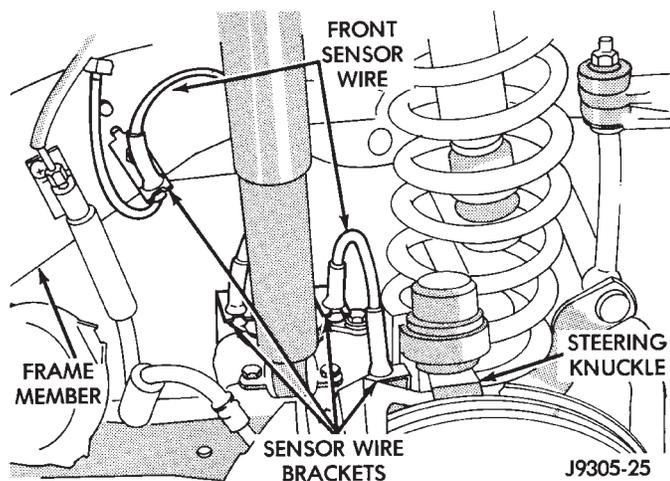
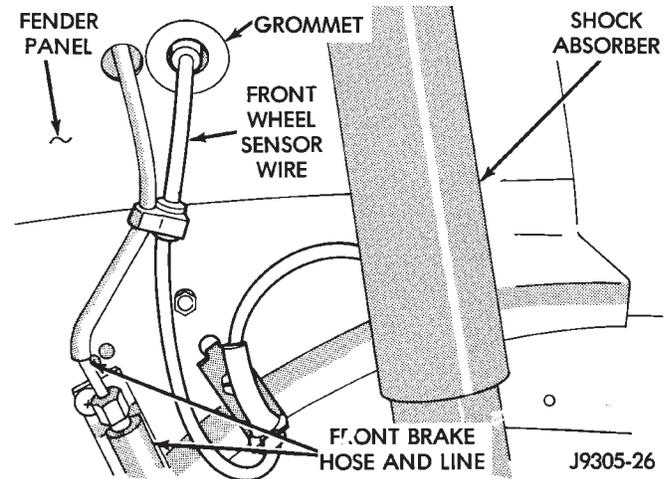

Fig. 8 Sensor Wire Routing
Fig. 9 Sensor Wire Grommet
- (5) Disengage sensor wire from brackets on steering knuckle and frame member (Fig. 8) and (Fig. 9).
- (6) Unseat grommet that secures sensor wire in fender panel.